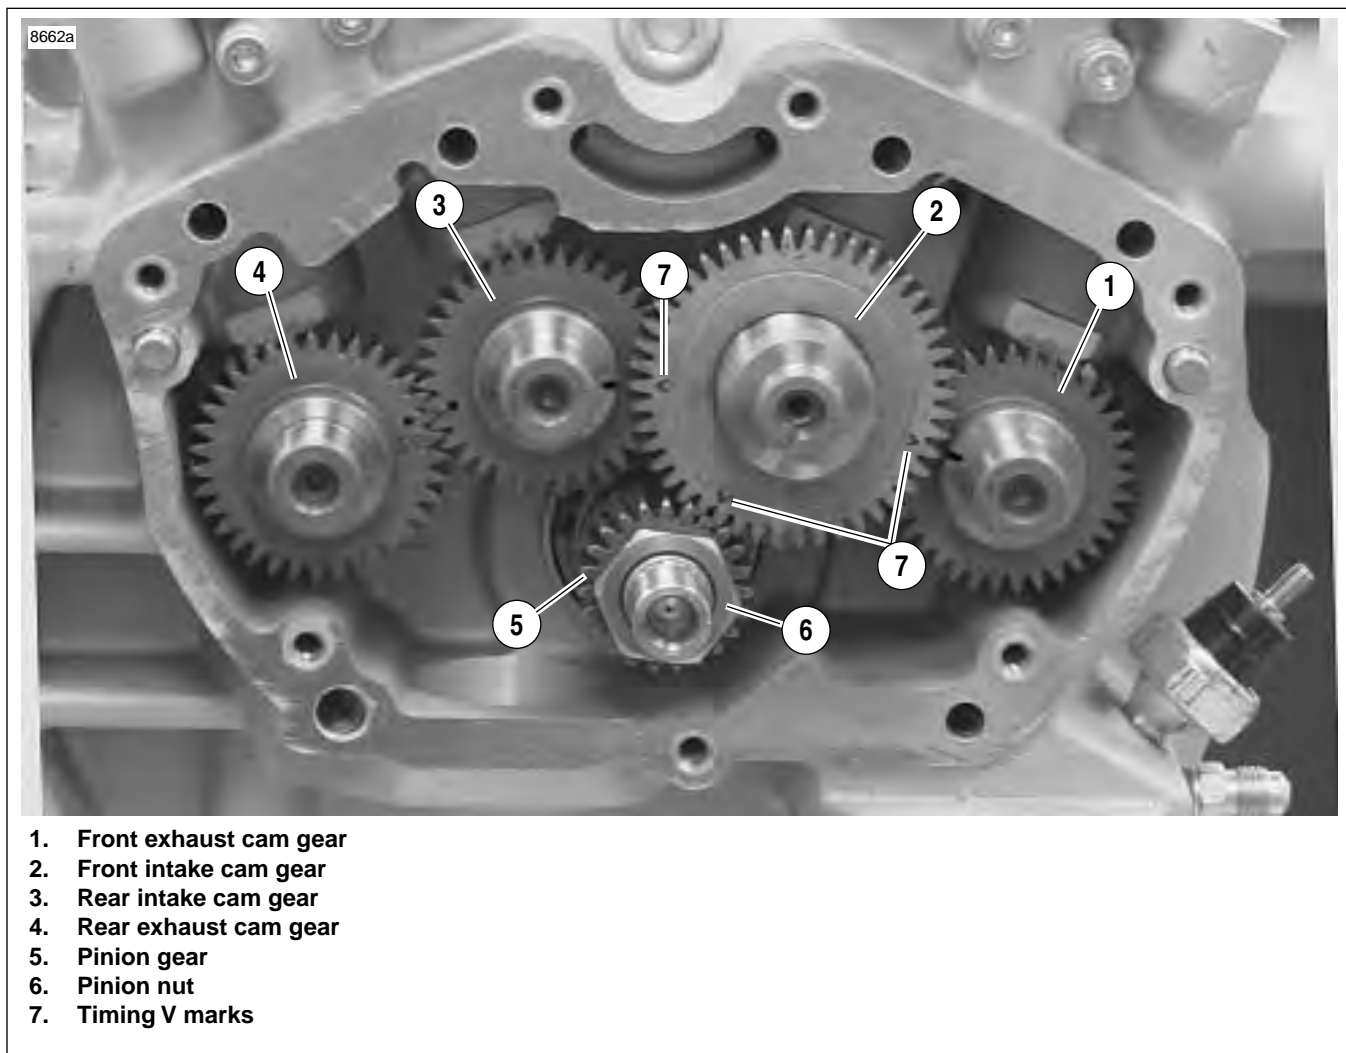

Figure 3-127. Cam and Pinion Gear Location and Timing Mark Indexing
8. See Figure 3-127. Remove cam gears (1, 2, 3 & 4).
See Figure 3-127. The timing marks are located on the front intake cam assembly (2). Note the "V" marks (7).